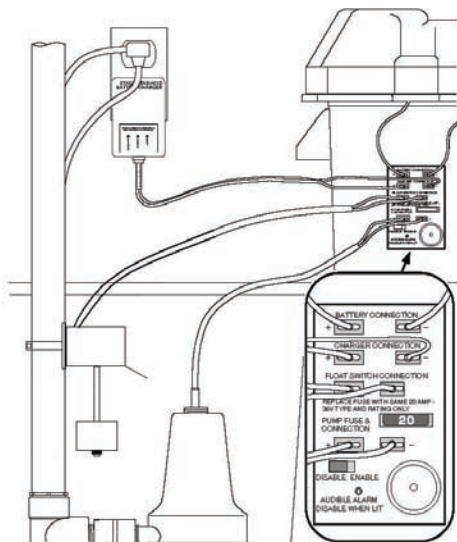

Figure 8 – Wiring Connections for Model 441
1. Apply the square two-sided tape (provided, Key No. 9) to the back of the junction box. Press the junction box onto the battery box as illustrated in Figure 8.